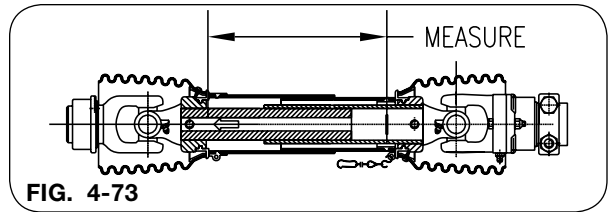

FIG. 4-73
7. Measure the length “L” from the same points as used in step 1. **This distance must be at least 1.5 inches greater than the distance measured in step 1.** If necessary, adjust the length of the PTO shaft by cutting the inner and outer plastic guard tubes and inner and outer sliding profiles by the same length. Round off all sharp edges and remove burrs before greasing and reassembling shaft halves. (Fig. 4-73)